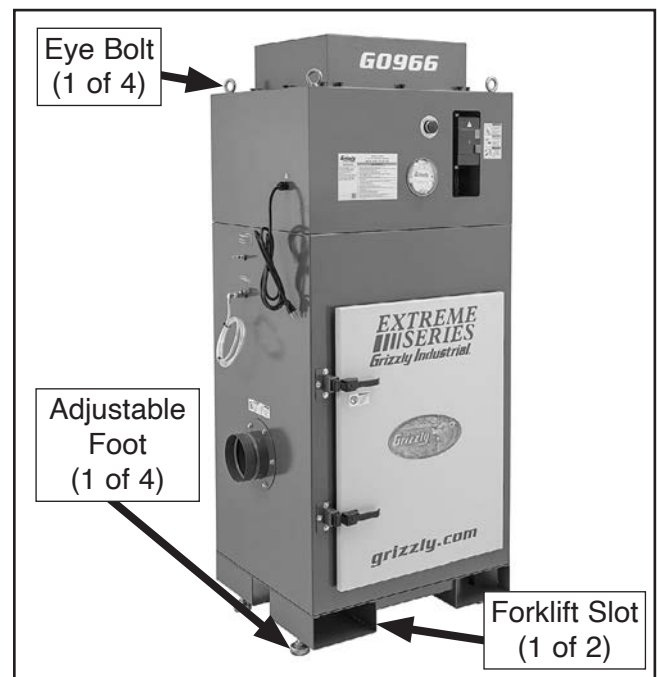

Figure 13. Lifting points and adjustable feet.
1. Lift machine by using forklift slots or eye bolts (see **Figure 13**), and set in desired location.
2. With assistant's help, raise or lower adjustable feet as needed to stabilize machine (see **Figure 13**).